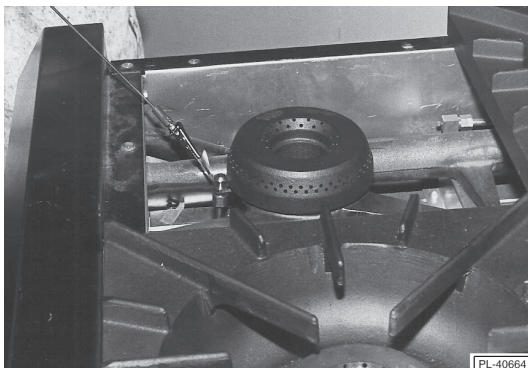

Fig. 14
2. Wait 30 seconds and, using a taper, light the open top pilot (Fig. 14).